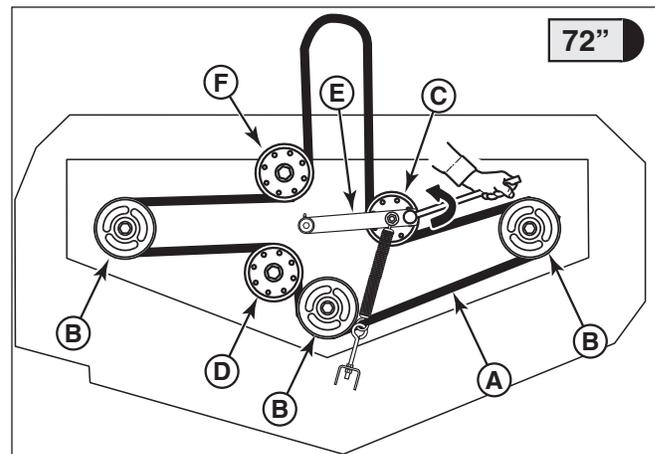

Figure 48. Mower Deck Drive Belt Routing - 72" Models (S/N: 2016950122 & Below)
3. Using a 1/2" breaker bar, place the square end in the square hole located in the end of the idler arm (E, Figure 48). Carefully rotate the breaker bar **counter-clockwise**, which will relieve the tension on the belt exerted from the idler arm.
4. Slide the drive belt (A, Figures 48 & 49) over the edge of the stationary idler pulley (F). Carefully release the tension on the breaker bar.
6. Install the drive belt on the PTO pulley, the spindle pulleys (B), the front stationary pulley (D), and the adjustable idler pulley (C).
7. Carefully rotate the breaker bar **counter-clockwise** and install the belt on the rear stationary idler pulley (F). Carefully release the tension on the breaker bar.